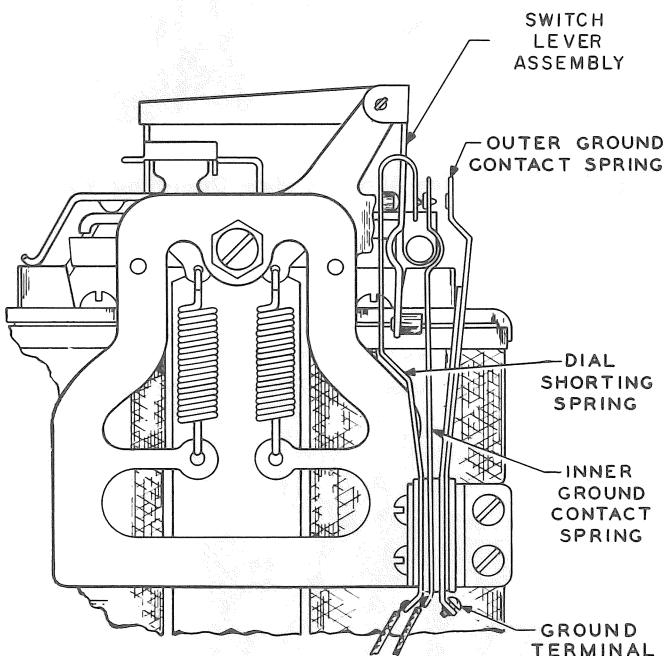

Fig. 55—D-96590 Dial Shorting Relay, 3-Spring (Guard Cut Away)
6.108 Refer to Fig. 55 and 56 for spring arrangements.
6.111 With coin trigger and operating arm in normal unoperated positions, dial shorting contact springs (Fig. 55 and 56) should have perceptible follow. With coin trigger tripped, they should be open; judge visually.